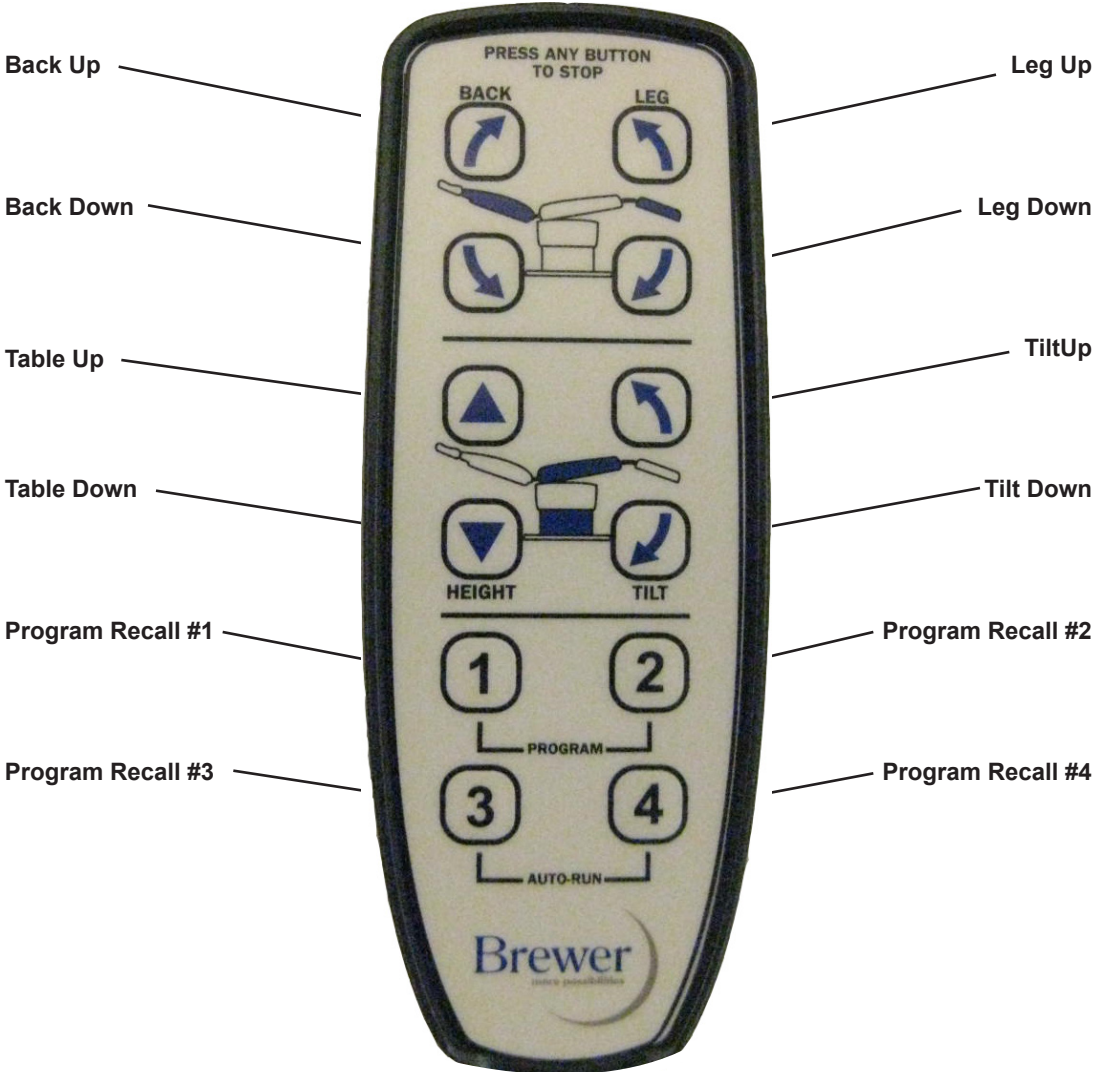

Figure 11
2. See figure 11 for the button identifications on the hand pendant
1. Move the table to the desired position. Simultaneously depress the number “1” and the number “2” “Program Recall” buttons. (see figure 11) Release the two buttons. Depress one of the four “Program Recall” buttons to store the position. Two beeps will sound.